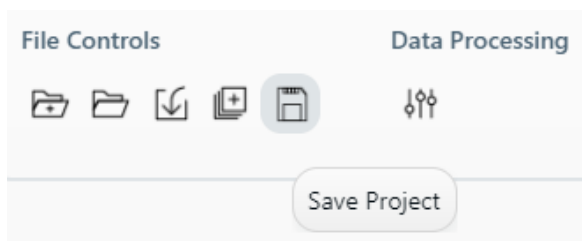

Figure 23. Save Project icon in IDS2.
1. If you have unsaved changes, click the 'Save Project' icon in the File Controls section of the menu bar (Figure 23).